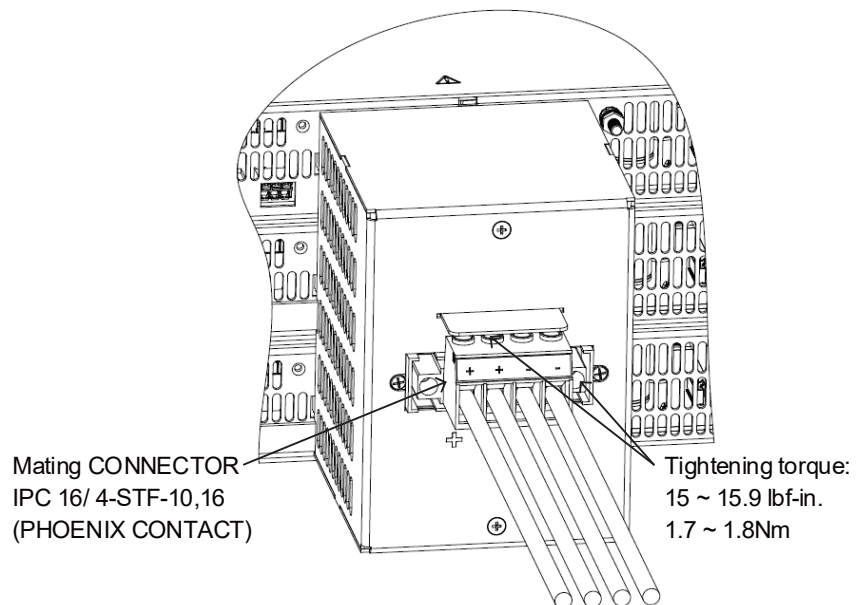

Figure 4-75: Load Wires Connection to the Output Plug
3. Insert the stripped wires into the terminals and tighten the terminal screws securely (see Figure 4-75, 15kW is shown, it applies to 10kW as well). Tightening torque: 15-15.9 Lbf-inch. (1.7-1.8Nm).
4. Tighten the mating connector to the power supply rear panel (see Figure 4-75, 15kW is shown, it applies to 10kW as well). Tightening torque: 15-15.9 Lbf-inch. (1.7-1.8Nm).